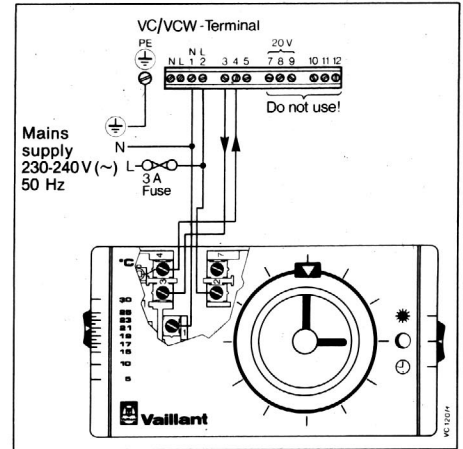

Fig. 30
- A) Automatic temperature set back (fig. 30) or